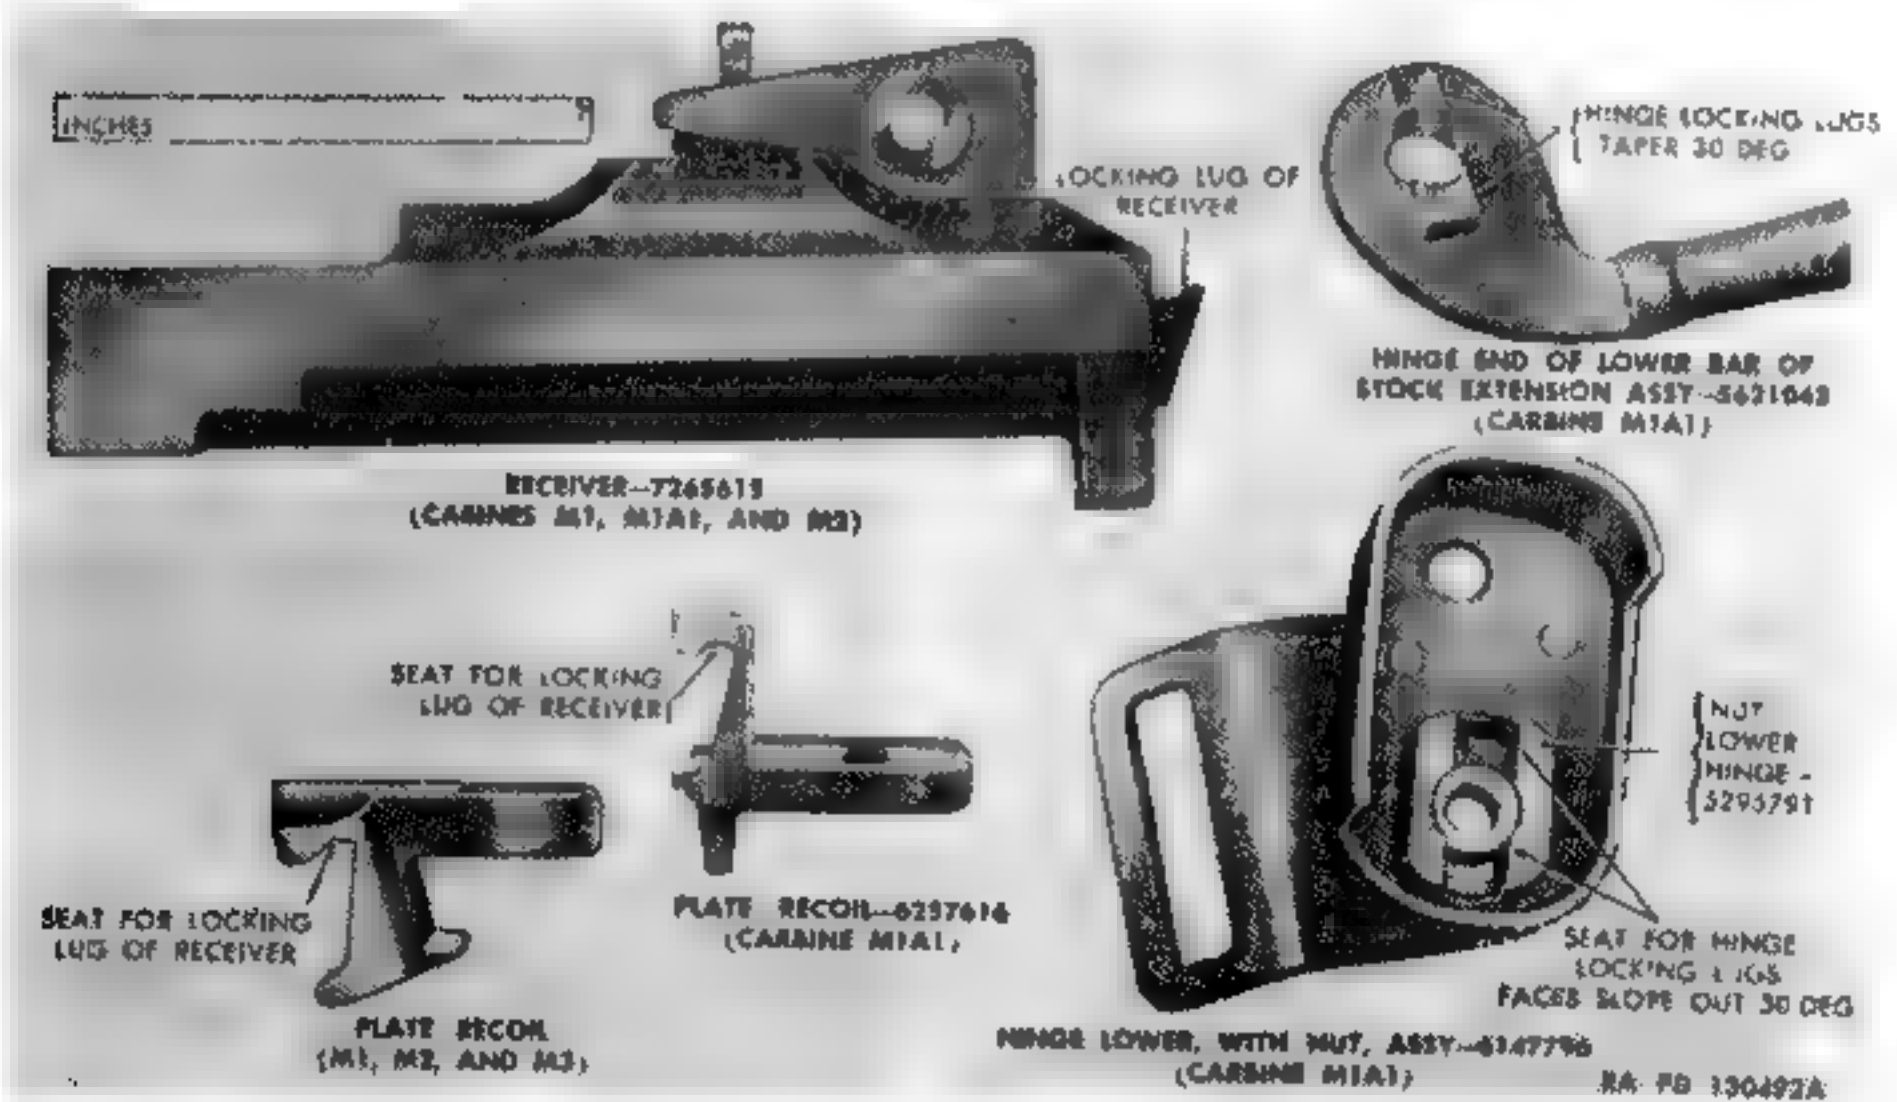

Figure 104. Important wearing surfaces.
f. Inspect receiver locking lug seat in recoil plate for wear and burrs (Fig. 104). When assembling, the locking lug on receiver should cam smoothly into the seat and be held there snugly without play or shake.
i. Inspect locking nut for looseness in lower hinge shell. Inspect shell for deformation. Inspect sling eyelet for looseness on hinge shell (Fig. 104). (Nut is staked or spot-welded in shell and eyelet spot-welded to shell.) Check locking slot in nut for wear and burrs (angle of slot face is 30 degrees). Inspect lower hinge screw for wear and inspect threads in grip for stripping.
l. Inspect hinge on upper bar for deformation and cracked welding and lock on corresponding end of lower bar for deformation, cracked welding, and worn locking lug (Fig. 104). The proper mating of lock and nut determine the rigidity of the stock extension when extended or folded. Angle of lock faces should correspond to that of the nut. Wear of lock or nut will cause looseness and improper locking.